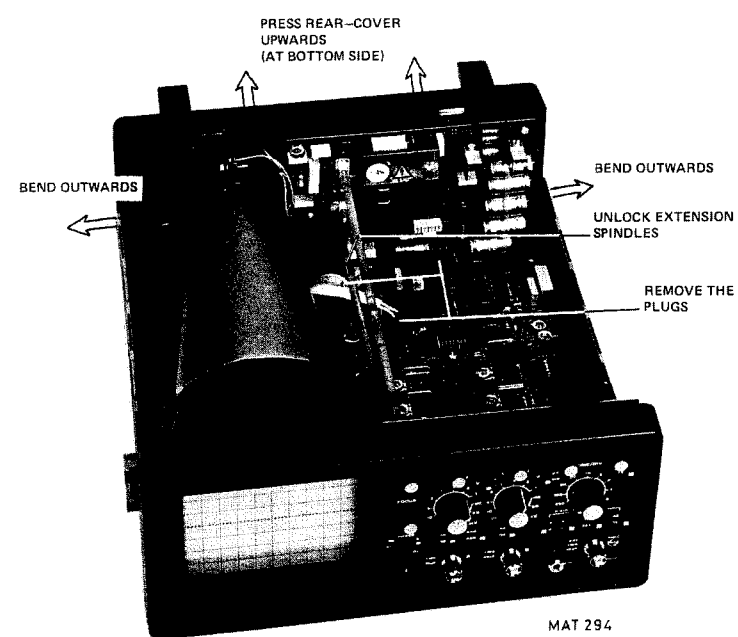

Fig. 4.
- Unlock the "POWER-ON"; "FOCUS" and "INTENS" extension spindles at the power-supply side (fig. 4.)
- Remove the plugs (fig. 4.)
- Bend the bottom-cover outwards at the rear-side and simultaneously press the rear-cover upwards (see arrows in fig. 4.)